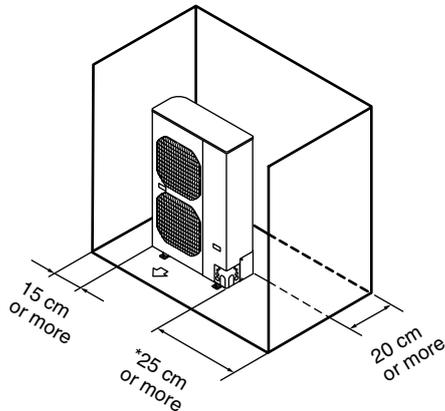

Fig. 2-5
- allow enough room around the unit for air intake/exhaust and possible maintenance. (Fig. 2-5)
- (1) Obstructions on the left side, right side and rear side (Front side and above the unit are opened). (Fig. 2-5)